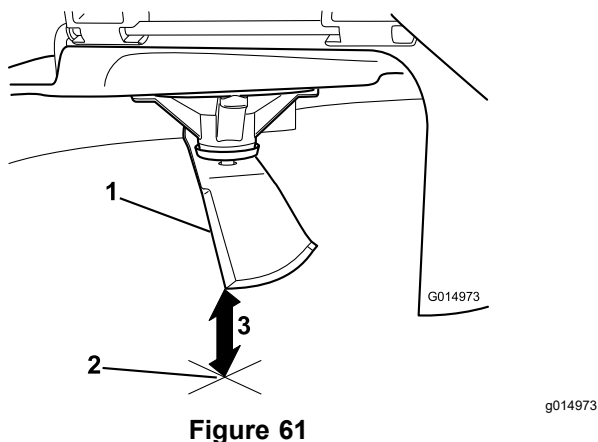

Figure 61
5. Measure from the tip of the blade to the flat surface (Figure 61).